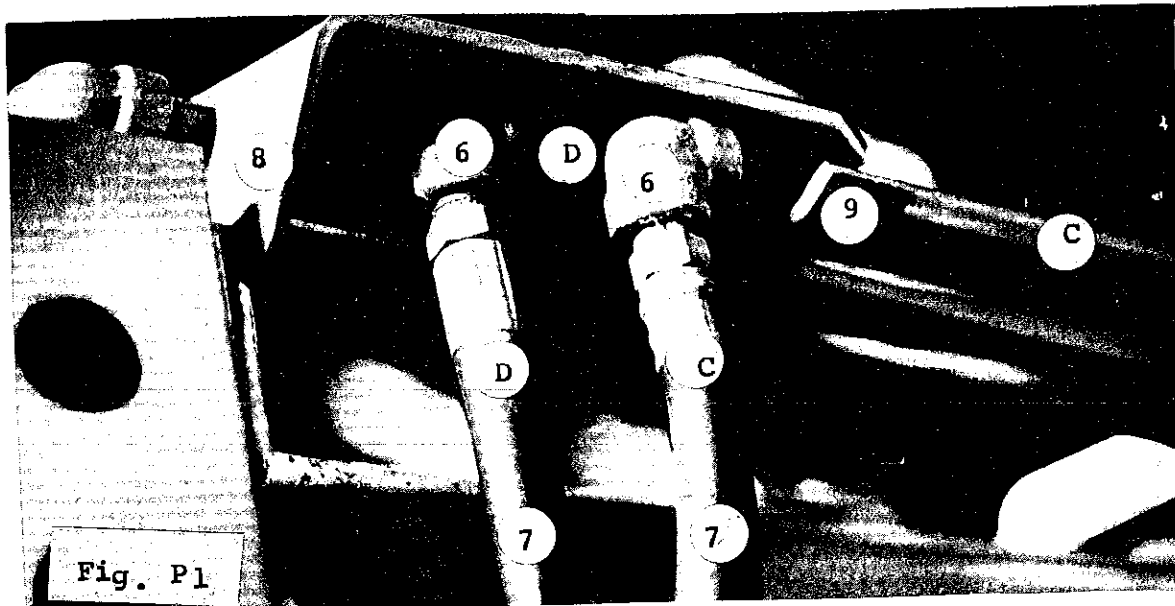

Fig. P1
1. For line C lay out the 43-1/2", 40" and 37" pipes, along with a 45° street el and 1/2" tee and assemble as shown in Fig. P. The pipes are secured to the siderails with anchor brackets (8, Fig. P1).
2. For line D lay out the same length pipes, street el and tee, and assemble. Line C and D pipes are fastened together with a pipe clip (9) as shown in Fig. P1.